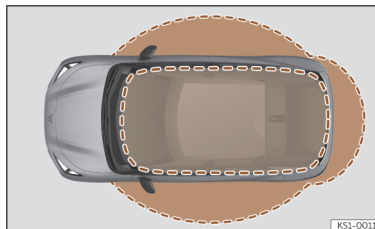

Fig. 69 Keyless Access: proximity zones.
- The vehicle unlocks when the vehicle key is detected in the vicinity >>> **Fig. 69**. All indicators light twice and the authorised door handles deploy.